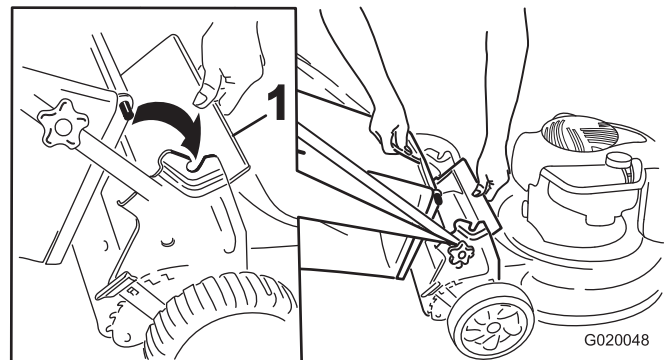

Figure 15
1. Lift up the rear deflector (Figure 15).
2. Insert the grass-bag handle onto the notches on the handle brackets (Figure 15).